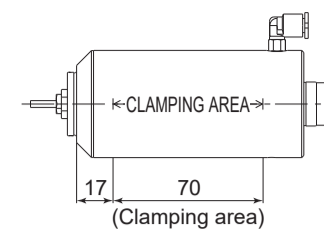

Fig. 9
- When mounting a Spindle, refer to the Clamping Area etched on the Spindle (Fig. 9).